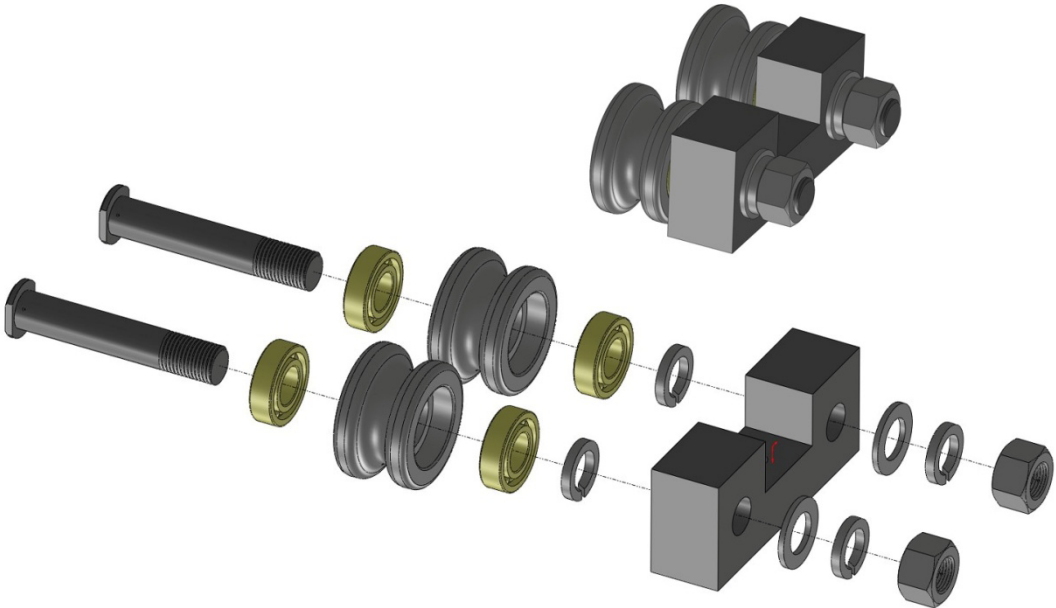

Figure 6.8
6.2.1 Tower rolling system installation: Install all the components according to the figure 6.8.